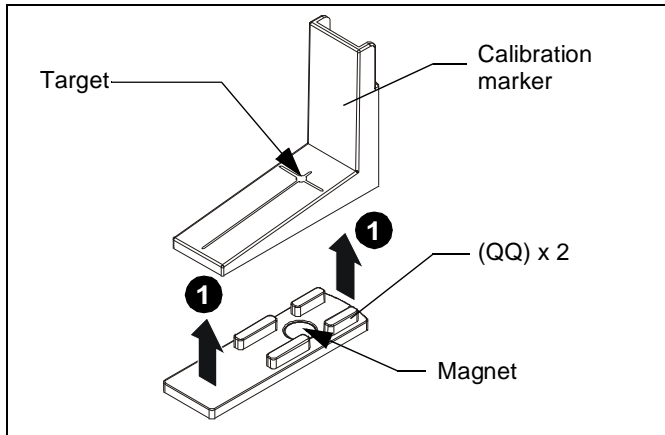

Figure 23
1. Snap calibration marker spacers (QQ) into bottom of calibration markers included with Epson projector. (See Figure 23)
**NOTE:** Ensure that magnet on calibration marker spacer (QQ) lines up with target on calibration marker. (See Figure 23)